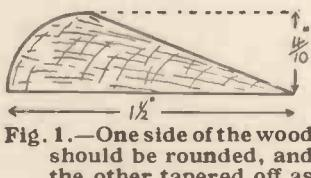
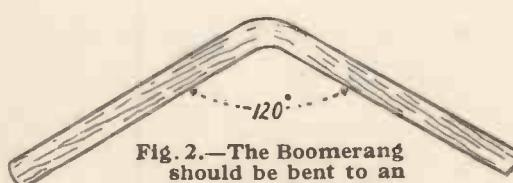

Fig. 1.—One side of the wood should be rounded, and the other tapered off as shown.
Fig. 2.—The Boomerang should be bent to an angle of 120 degrees.
**Y**OU require a piece of hard wood, such as oak or teak, about 2 ft. 6 in. in length, and  $1\frac{1}{2}$  in. wide. The thickness should be  $\frac{1}{2}$  in. One side should be left flat and the other rounded, as shown in Fig. 1—the greatest thickness of this curved part to be  $\frac{4}{10}$  in.—and by steaming the wood, carefully bend to an angle of 120 degrees (see Fig. 2).